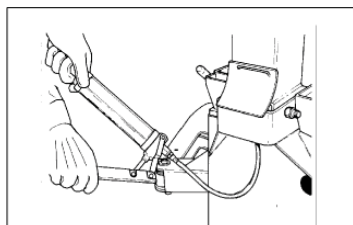

Fig. 6.0-4
J. Grease every 4 months the shaft that connects the column to the cabinet. Add grease through the greasing nipple. Fig. 6.0-4